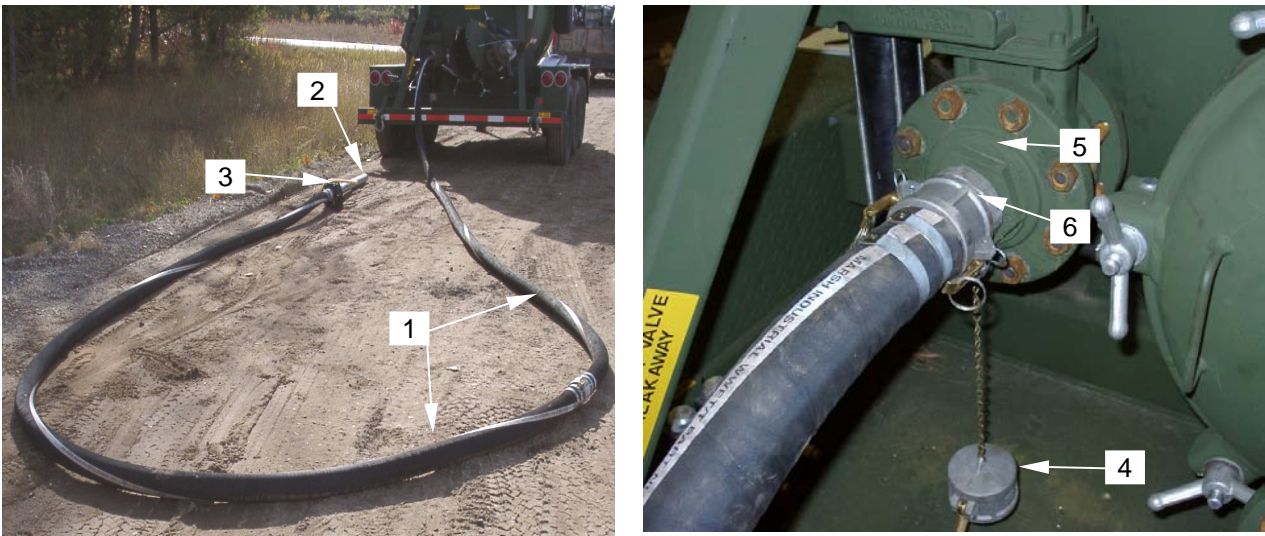

Figure 14. Assembling Intake Hoses
3. Remove dust cover (**figure 14, item 4**) from the 2 ½-inch intake valve (**figure 14, item 5**). Connect the female cam-lock (**figure 14, item 6**) of the other hose end to the 2 ½-inch intake valve.
4. Connect two 2½-inch x 20-foot intake hoses (**figure 14, item 1**) in series. Connect the 2½-inch chopper tube/wand (**figure 14, item 2**) to the end of the assembled intake hoses closest to the facility to be serviced. Place the end of the chopper tube/wand, with the ball valve (**figure 14, item 3**) closed (handle pointing away from wand), into the liquid to be pumped.